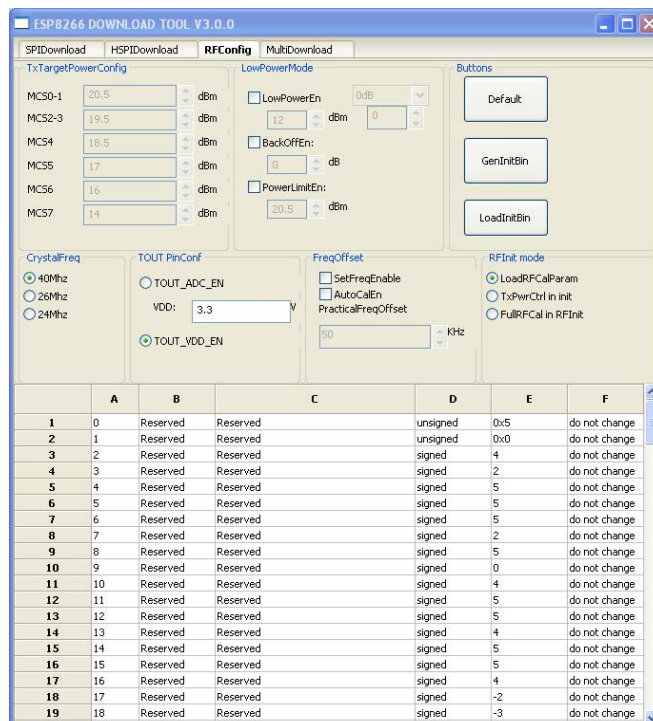

Figure 6-2. ESP8266 DOWNLOAD TOOL - RF InitConfig
*RF InitConfig* options are listed in the upper part of Figure 6-2. Please refer to Table 6-3 for a description of this configuration.
*RF InitConfig* parameters are listed in the lower part of Figure 6-2. The description of parameters' configuration is shown in Table 6-4.